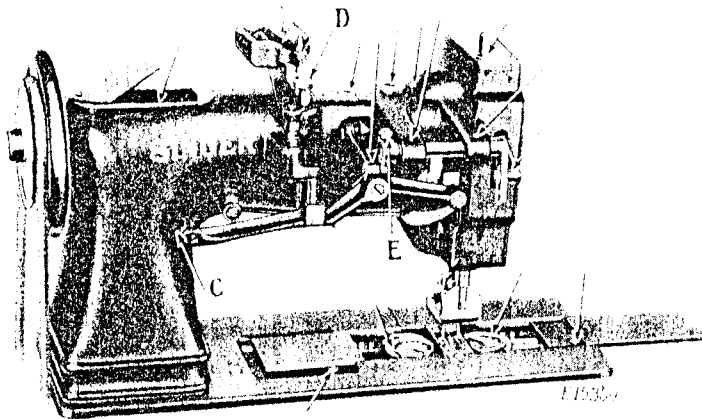

Fig. 3. Rear View of Machine
To increase the pressure of the presser feet on the material, turn the thumb screw (D, Fig. 3), at the back of the machine, downward. To decrease the pressure, turn this thumb screw upward.
If the distance between the vibrating presser bar and the lifting presser bar is more or less, insert a screwdriver in the hole at (C, Fig. 3) at the rear of the machine and loosen the clamp screw which holds the needle bar rock frame rock shaft. While this screw is loose, the needle bar frame can be moved forward or backward to the required distance. A piece of metal of the correct width may be used to determine the correct distance. When making this adjustment be sure to see that the feed regulating spindle head is set so that there is no feeding movement of the needle bar. When the adjustment has been made, securely tighten the clamp screw at C.
As a rule, the vibrating and lifting pressers should lift an equal height, but some grades of work may require that they lift an unequal height. To change the relative lift of the presser feet, loosen the screw (E, Fig. 3) at the back of the machine and move the vibrating presser bar upward or downward as required, then securely tighten the screw (E).